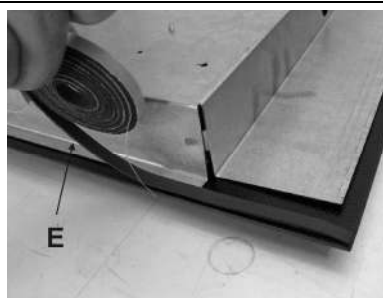

FIG. 9
- Turn the cooktop, correctly install fixing E (Fig. 9) under the cooktop edge, so that the outside sealing edge is precisely aligned with the cooktop perimeter edge. Outside band edges must be aligned without overlapping.